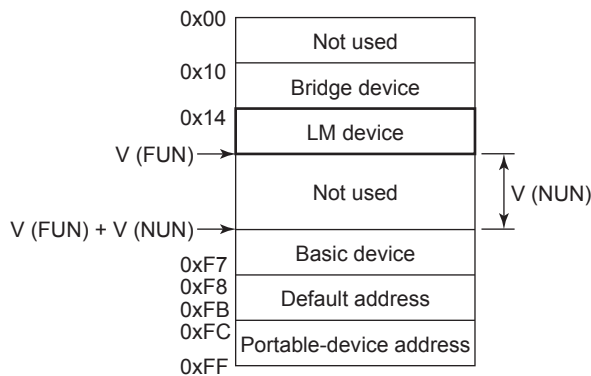

Figure 3. Node Address Ranges
- (3) In the LAS settings of the YTA, set the values of V(FUN) and V(NUN) so that they include the node addresses of all nodes within the same segment. (See also Figure 3.)